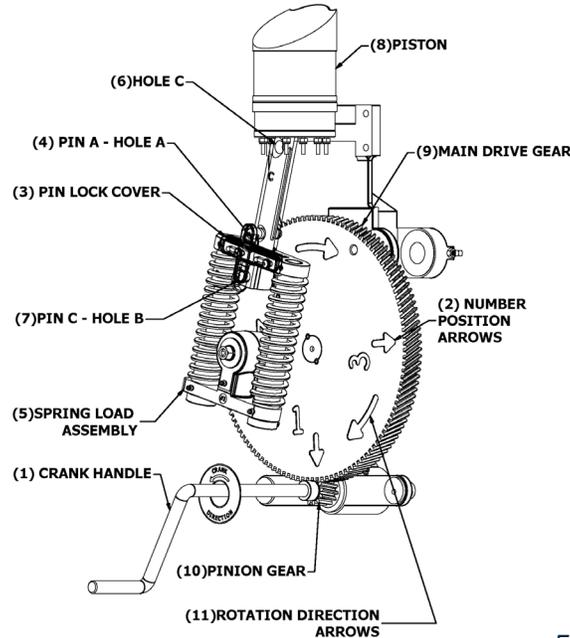

Figure 8: Piston Parts
- **Only rotate the crank handle (Figure 8, 1) counterclockwise.**
- The arrows are painted white, alongside their respective numbers, and the signal which position the main drive gear (Figure 8, 9) is in. When the arrow is pointing down towards the crank handle, the main drive gear is in that position.
- For example, **Figure 8** below is in position 1.
1. Insert the Crank Handle (Figure 8, 1) into the hole on the side of the cabinet where the crank direction sticker is located.
3. Turn the Crank Handle counterclockwise until the gear is in the 1 position as shown in Figure 8.
4. Loosen the two bolts on the Pin Lock Cover (Figure 8, 3) so it can slide to the right, revealing the pins behind the cover.
5. Remove Pin A (Figure 8, 4) from the assembly and place in the bolt tray attached to the outside of the cabinet.
6. Continue to rotate the Crank Handle counterclockwise until the Spring Load Assembly (Figure 8, 5) is at its lowest position with the rod above extended. This will reveal hole C (Figure 8, 6)
- Ensure that any excess dough is removed from face of the cylinder and that the scraper ring and O-ring that were removed in Step 7 (Figure 8 above) have been cleaned.